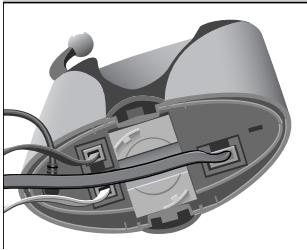

Figure 2-3. Connecting the Hookswitch Device to the Base, Step 4.
4. Pass the Hookswitch cord through the channel on the bottom of the base so that all of the cords exit the rear of the base (Figure 2-3).